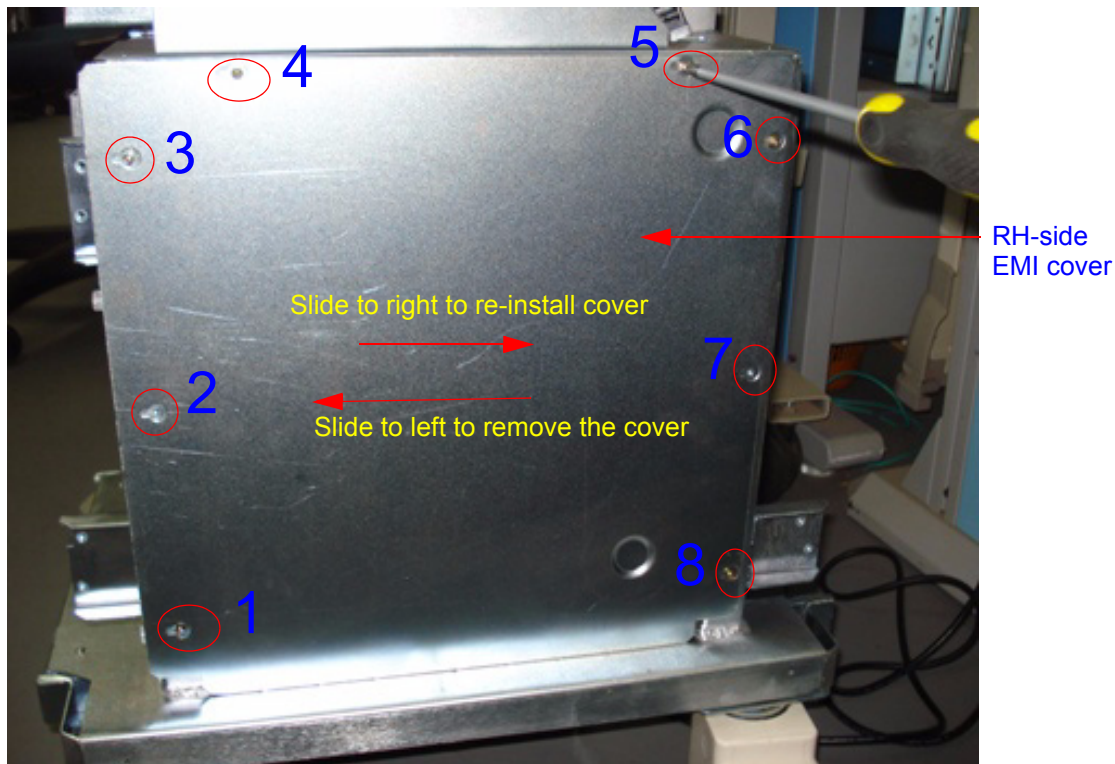

Figure 8-37 RH-side EMI cover
- 3) Slide and remove RH-side EMI cover. Refer Figure 8-37 on page 8-44 for details on how to remove Right cover.